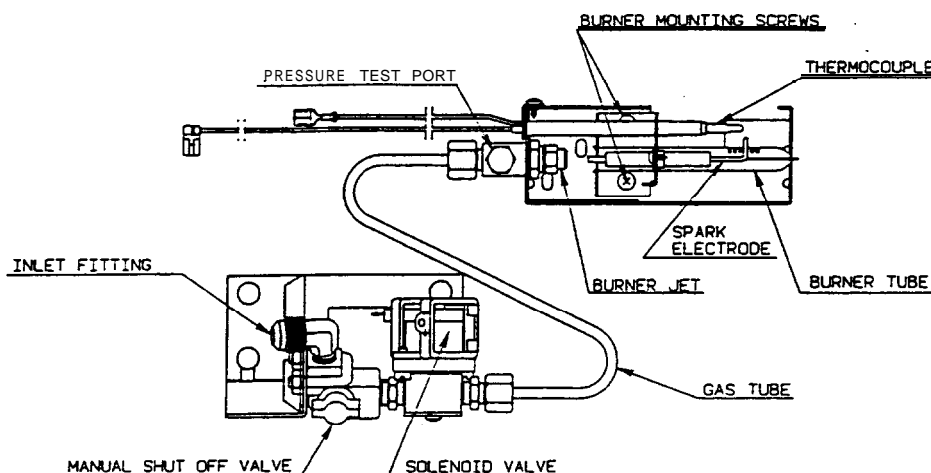

FIG. 16
- D. The LP gas pressure should be checked and the main regulator re-adjusted if pressure is incorrect. The correct operating pressure is 11 inches of water column. The correct place to take the LP gas pressure is at the test port just ahead of the burner jet. (See FIG. 16).
6. Remove the burner mounting screws and remove the burner assembly. (See FIG. 16).
Set main regulator so pressure does not drop below 11 inches water column at pressure test port (see side 13 FIG. 16).